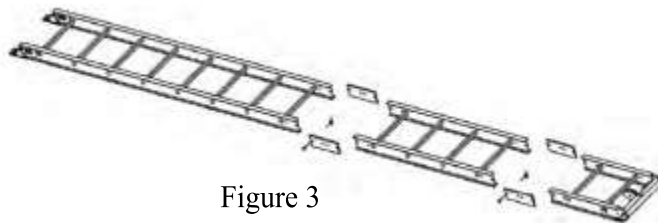

Figure 3
- c. Splice the ladder sections together using the connection brackets. The connection brackets should be placed on the "outside" of the ladder section See Figure 3